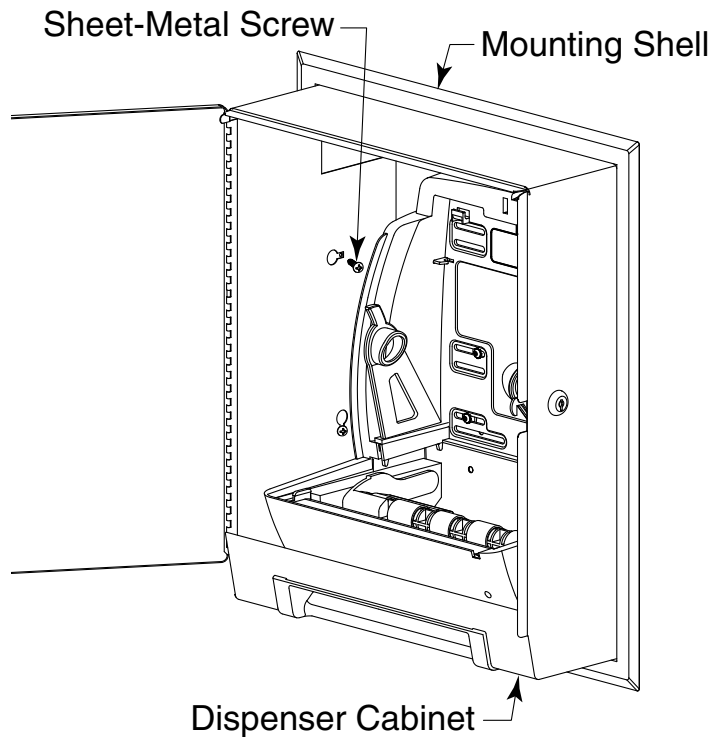

Figure 2
2. Carefully slide the Dispenser Cabinet into the Mounting Shell and support it from underneath with one hand. (See Figure 2)